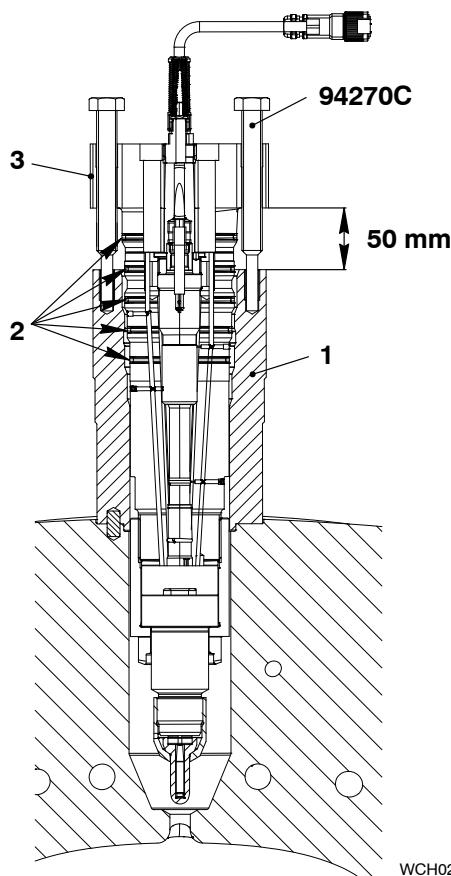

Fig. 2
- 3) Make sure that the cooling for the injection valve (4) is stopped, refer to Operation Manual 8016-1, paragraph 3.
- 4) Remove the screws (1) together with the spring cage (3).
- 5) Put the two bolts (94270C, Fig. 2) in position as shown.
- 6) Turn fully the two bolts until they touch the thread end in the valve bush (1).
- 9) Remove and discard the five O-rings (2).
- 10) If necessary, disassemble the spring cage (3).